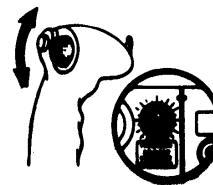

Fig.3. How to set the trim effect mechanism neutral.
27. Put, on the circuit breakers "Триммеры элеронов и РП, триммерный эффект" /aileron and rudder trimmers, trimmer effect/ and "Управление НУС-2 стабилиз" /stabilizer control/ and make sure the lights indicating the rudder tab neutral and the trim effect mechanism lights are shining. To check the trim effect mechanism for good functioning you shift the button on the control column to and fro; the control column will follow the button movements. The check accomplished, set the trim effect mechanism neutral (Fig.3).